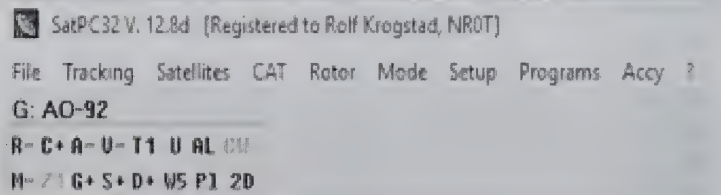

Figure 10.
B) Toggle Switches: In the top left of the main window are a series of toggles (Figure 10). The most commonly used are C-/C+ and T0/T1. See the official documentation for information and the rest of the toggles. C+ activates radio CAT control. C- displays if the CAT control is turned off. T0 / T1 / T2 are tied to subaudible tones. T0 means no tones are active, T1 means the first tone is active, and T2 means the second tone is active. Currently, only SO-50 has more than one tone.